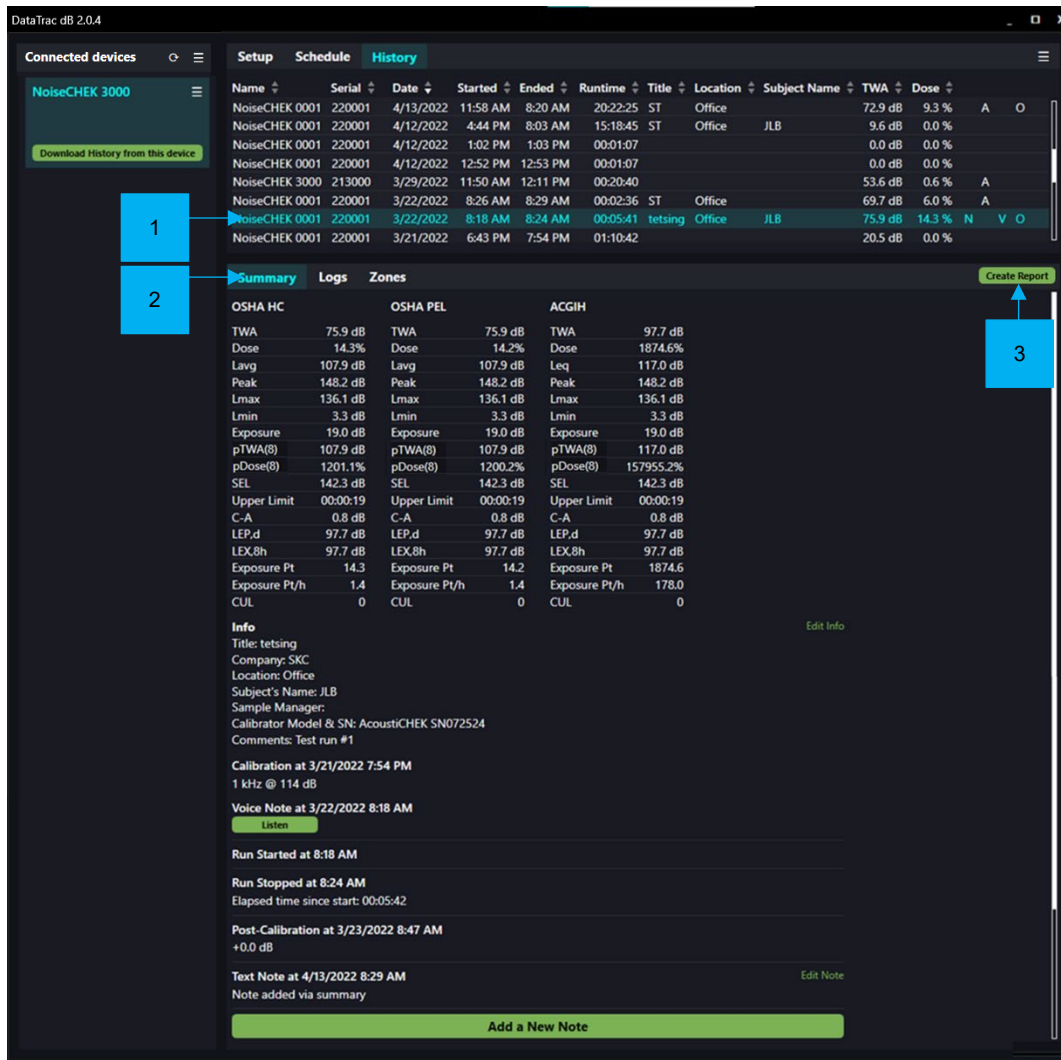

Figure 10. Summary
Summary – Viewing, Editing, and Reporting Data (Figure 10)
1. **In Summary:** Click Add a New Note (see Figure 10).